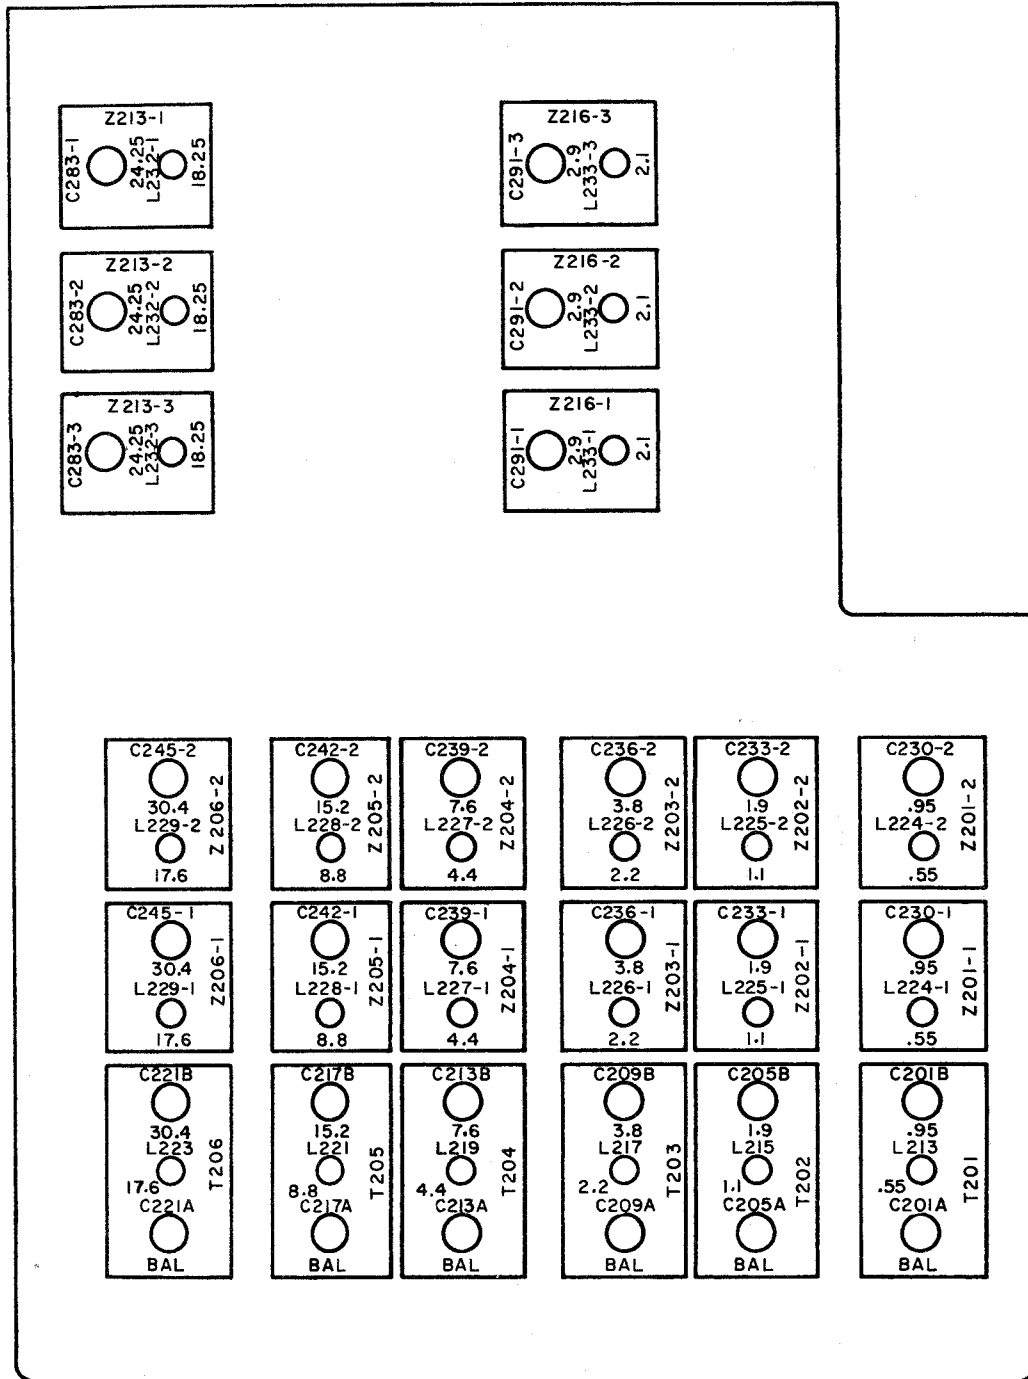

Figure 6-6. RF and Variable IF Alignment Points
6.2.10.2 Alignment. (See figure 6-6.)
6.2.11.2 Alignment. (See figure 6-6.)
6.2.12.2 Procedure. (See figure 6-6.) Perform each step in the RF alignment chart (table 6-2) by repeating the two steps given below.